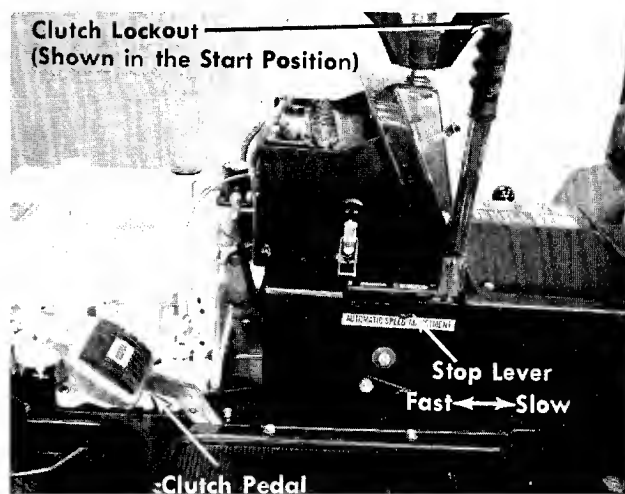

FIGURE 8. LEFT HAND CONTROLS
e. **Clutch Pedal.** The clutch pedal is used to disengage the drive mechanism. Depressing the clutch pedal at any time will slow you down or, if depressed all the way, will stop the mower. See figure 8.
f. **Clutch Lockout.** When the clutch pedal is depressed all the way it can be locked by placing the clutch lockout in the START position as shown in figure 8. The clutch lockout must be in this position before the engine will start.
g. **Stop Lever.** The stop lever allows you to regulate the maximum ground speed of the riding mower by setting the stop lever in any one of the five settings. The farther forward the stop lever is set, the faster your ground speed. See figure 8.
Step 2. Place the clutch lockout in the **START** position. See figure 8.
Step 3. Set the stop in the slow position. See figure 8.